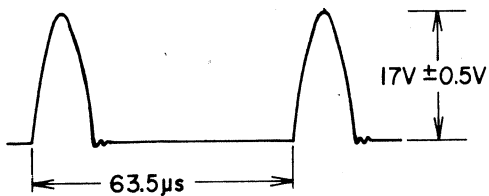

Fig. 2-4 Horizontal Deflection Waveforms
- Connect an oscilloscope to Horizontal Yoke Terminal of Deflection P.C. Board and confirm that there is a waveform as shown in Fig. 2-4.